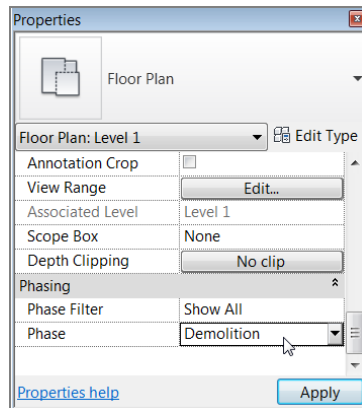

FIGURE 21.4: Changing Phase to Demolition
15. In the Properties dialog for the Level 1 Demolition plan, scroll down to Phasing, and change Phase to Demolition, as shown in Figure 21.4. Change Phase Filter to Show All.